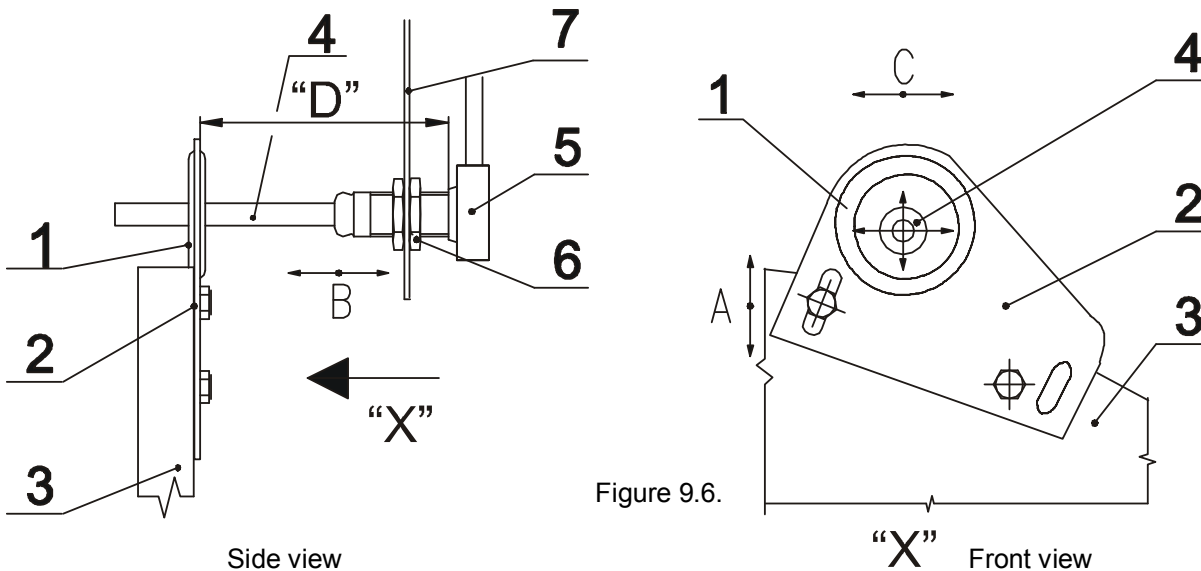

Figure 9.6.
Vibration switches are important safety elements protecting the machine if correctly adjusted, against excessive vibration and oscillations caused by badly balanced linen in the drum. The machine is equipped with two vibration switches. The unit contains vibration switch, Figure 9.6., pos. 5, flexible control element (4) fixed to the holder (7) by means of nuts (6). Entire system is bolted to the horizontal distributor in the machine right stand. Left vibration switch is bolted to the vertical side of the machine left stand.